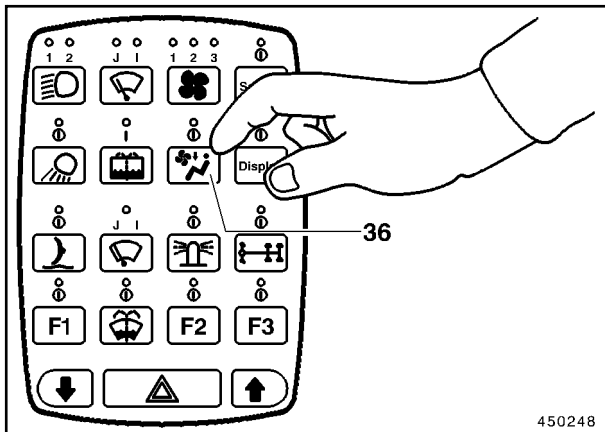

Fig. 3
The roof fan for additional fresh air is activated with key (36, Fig. 3).